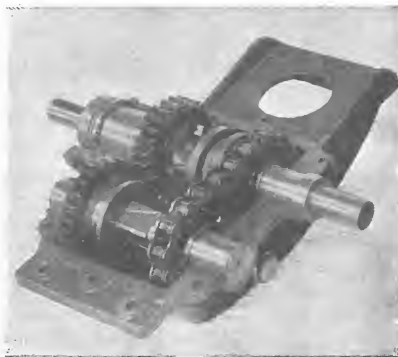
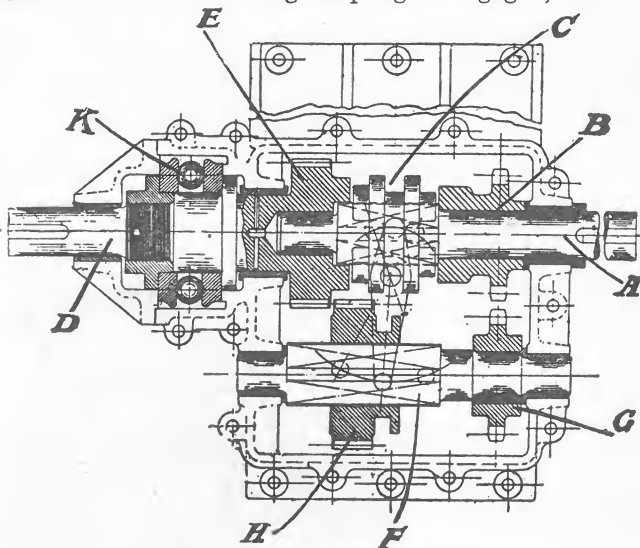

Fig. 2.
Fig. 3.—Section of Parsons gear.
There are a very great number of reversing gears on the market, and to describe all would take up far too much space. We will, however, explain how two of the number work. First we will take the Parsons gear, an illustration of which, with the top of the case removed, is shown in Fig. 2. The gear, it will be seen, is extremely simple. There are two shafts, a pair of gear wheels, and a chain drive. Fig. 3 shows the arrangement in section looked at from above. The action of the gear depends upon the fact that, if one shaft be driven by another by means of a chain, both shafts turn in the same
direction; if instead of a chain a single pair of gear wheels be used, the two shafts will turn in opposite directions. In Fig. 3, A is the engine shaft, on which runs a loose chain wheel (B) and a double-faced jaw clutch or sliding coupling (C). This coupling is carried on a squared portion of the shaft so that, though it can be moved sideways, it always rotates with the shaft. On the left is the propeller shaft (D), to which is keyed a gear wheel (E). Both the chain wheel (B) and the gear wheel (E) are provided with jaw couplings corresponding to the sliding coupling (C). If, therefore, C be moved to the left to engage with E a direct ahead drive will be transmitted from the engine to the propeller shaft.